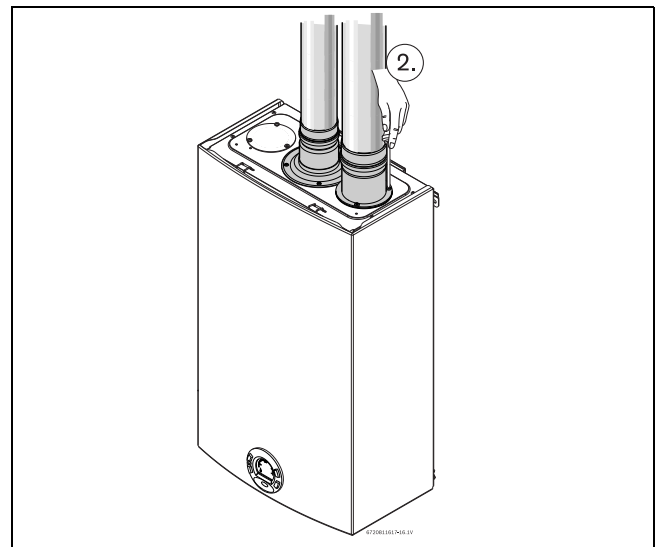

Fig. 18 Inlet connection
- ▶ Attach the combustion air inlet accessory to the top of the unit fig. 18 (position 2) using the 3 screws and gasket provided, and install 3" air intake pipe over the accessory.